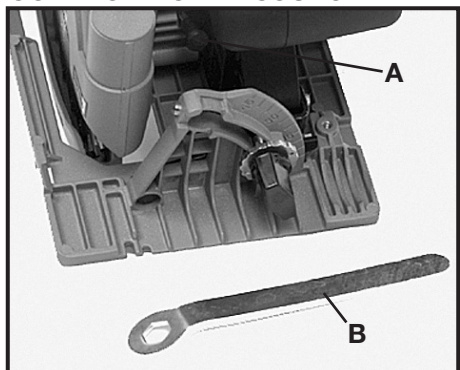

Fig. 1
- Push in blade lock (A) Fig. 1, and rotate blade by hand until lock engages blade arbor.
- While holding blade lock engaged, use wrench provided (B) Fig. 1, and loosen blade retaining bolt by rotating counterclockwise.